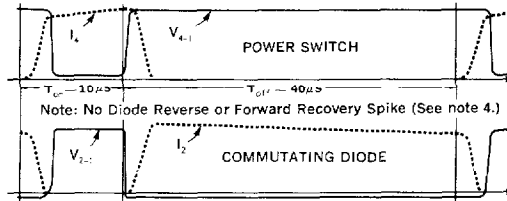

Figure 2. PIC600, PIC601, PIC602 Switching Waveforms
- No reverse recovery spike generated by commutating diode (See note 4 and Fig. 2.)
| Voltage Fall Time | t_{fv} | — | 50 | 75 | — | 50 | 75 | ns | See Figure 2. |
- In switching an inductive load, the current will lead the voltage on turn on and lag the voltage on turn-off (see Figure 2.). Therefore, Voltage Delay Time (t_{dv}) $\cong t_{di} + t_{ri}$ and Current Storage Time (t_{si}) $\cong t_{sv} + t_{fv}$.
- As can be seen from the switching waveforms shown in Figure 2., no reverse of forward recovery spike is generated by the commutating diode during switching! This reduces self-generated noise, since no current spike is fed through the switching regulator. It also improves efficiency and reliability, since the power switch only carries current during turn-on.